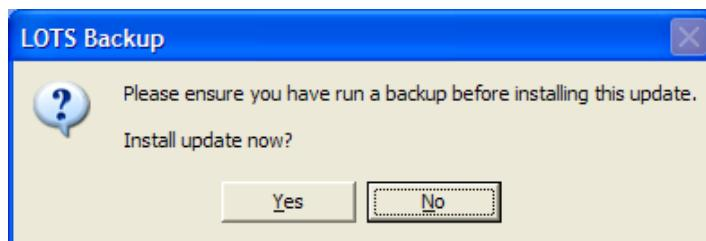

Figure 421
- After viewing the Release Notes the update screen (Figure 421) will reappear with all three options still active.